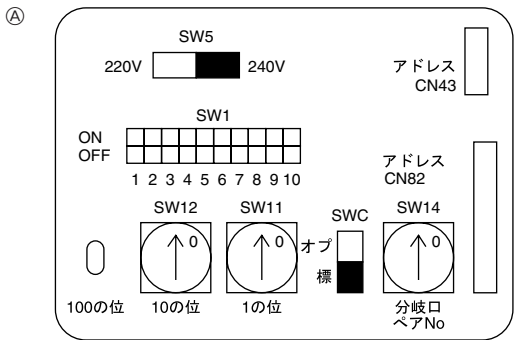

Fig. 6-4
6.3. Setting addresses (Fig. 6-4)